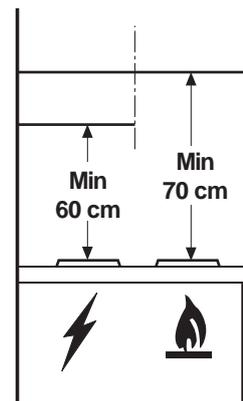

Fig. 4
- When installed, the hood must be not less than 60 cm. above electric burners or 70 cm. above gas or mixed-fuel burners. (Fig. 4).
When installed, the hood must be not less than 60 cm. above electric burners or 70 cm. above gas or mixed-fuel burners. (Fig. 4).